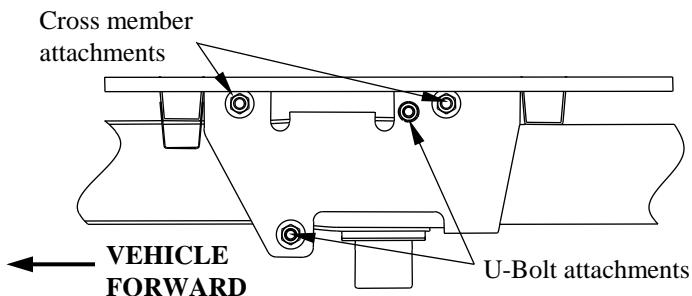

Figure 3
8. Line up the mounting holes on the frame brackets with the studs on the ends of the cross members. Loosely attach frame brackets to rails with 5/8" hex nuts, lock washers and flat washers as shown in Figure 3.